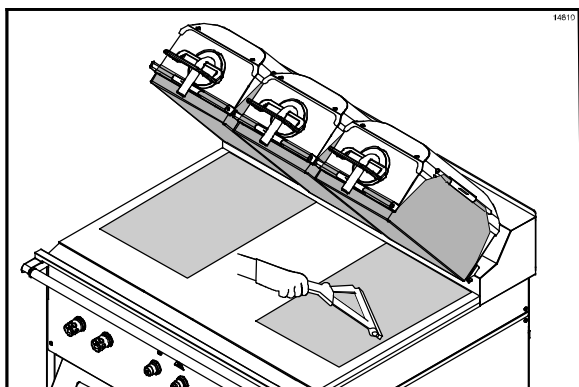

Figure 18
10. Repeat the last two steps for the release sheet on the other side of the grill. (See Figure 18.)